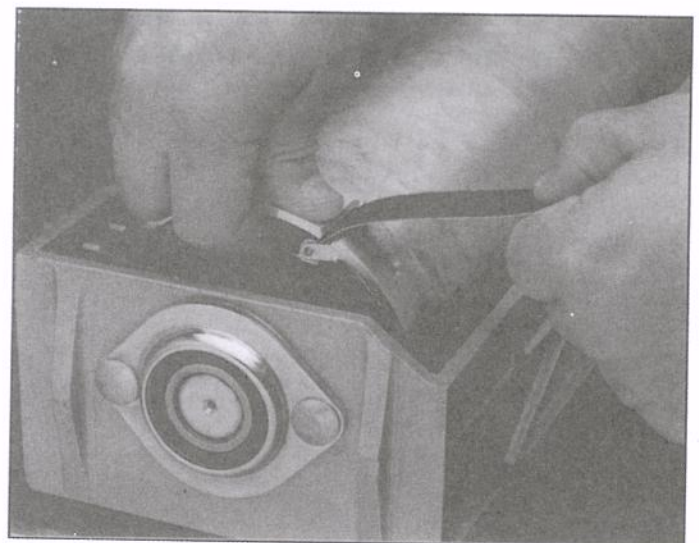

Figure 17
2. Using either a pre-cut strip or one which you have cut for use, you begin the abrasive strip installation by inserting the tip of the tapered strip into the slot in the left side of the drum while depressing the clip (Figure 17). Approximately one inch of material should be inserted into the slot to make the connection in the abrasive clip. Release clip pressure once the inserted tapered end is securely loaded in the clip jaws.